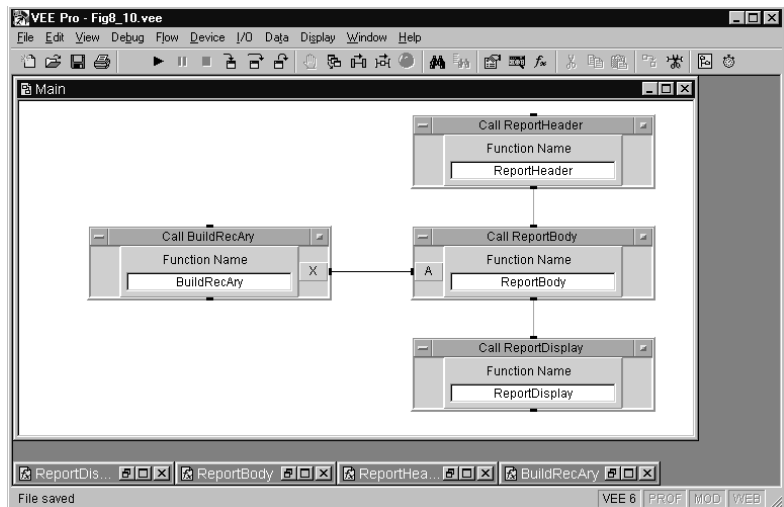

Figure 191 Report.vee from the Top Level
- b In Main, create four **Device** \Rightarrow **Call** objects configured and connected as shown in Figure 191. Save the program as **Report.vee**.